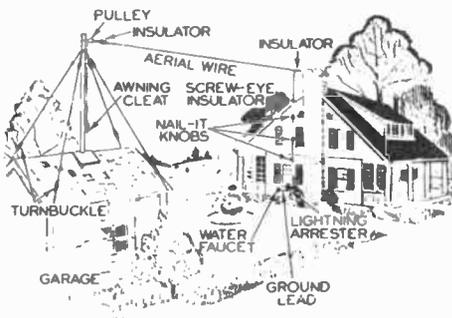

FIG. 1. Simple and effective inverted L type antenna and ground system for broadcast band reception.
FIG. 1. Foundation unit of Taco type 320 master antenna system, which will serve up to 25 receivers. Note the sleeving or loom just below the antenna transformer; this can be slid along the transmission cable to the point where the cable first touches the building. Taco also makes a smaller master system for 6 to 8 receivers.
**General Data on Taco System.** The foundation unit for the Taco master antenna system is shown in Fig. 1; it consists of an antenna transformer connected between two pick-up wires, one 22 feet long and the other 80 feet long. The two-wire twisted transmission line supplied with this foundation unit is 30 feet long, but may be lengthened to as much as 250 feet by splicing on additional lengths of this same wire, which is sold separately. The pick-up wires should be located as high as possible above all objects on the roof; the minimum height from the standpoint of effectiveness is about 10
An ordinary inverted L type antenna system for broadcast band reception contains five essential sections: 1, the aerial wire, supported in a horizontal position between insulators; 2, the lead-in wire, which connects the aerial to the receiver; 3, the ground lead; 4, the ground; 5, the lightning arrester. The sketch in Fig. 1 shows these five sections for a typical installation.
A detailed description of the steps involved in erecting an antenna system like that shown in Fig. 1 will give you the essential informa-